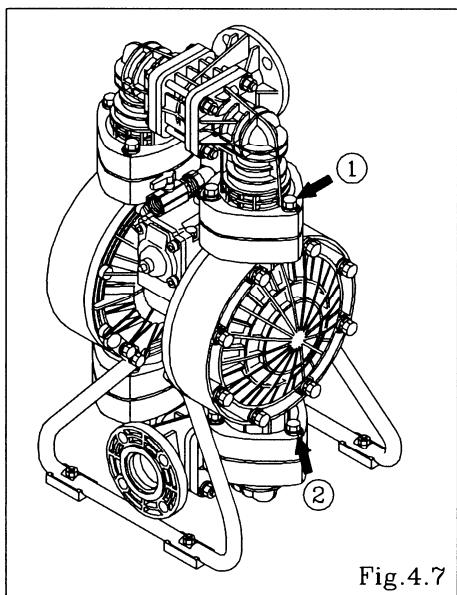

Fig.4.7
- Remove the 6 (8 on the NDP-80) retainer bolts “1” from the out manifold, and remove the protector and out manifold. [Fig.4.7]
- Remove the 6 (8 on the NDP-80) retainer bolts “2” from the in manifold, and remove the protector and in manifold. [Fig.4.7]